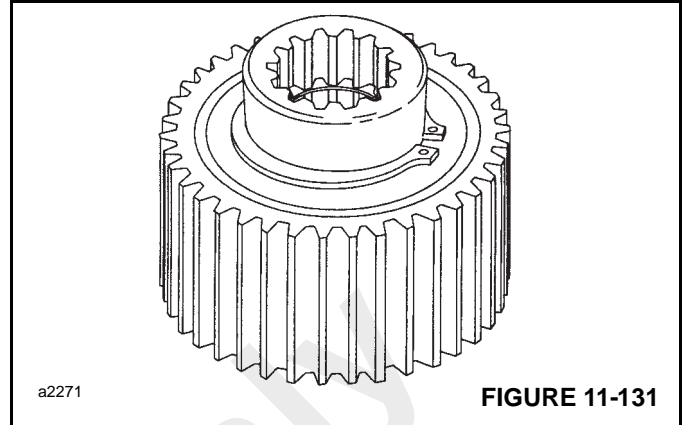

FIGURE 11-131
6. Turn the assembly over with the snap ring down. Install the second retainer and snap ring (Figure 11-131). Make sure the snap ring is properly seated in the groove.